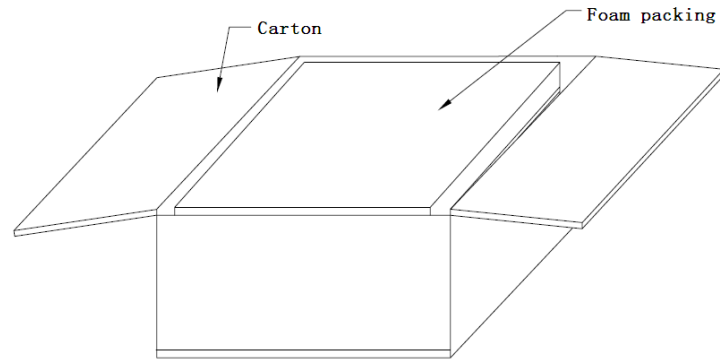

Fig.3-6 Open the carton
3. Cut the plastic packing belt and scotch tape to open the carton. see Fig.3-6) .